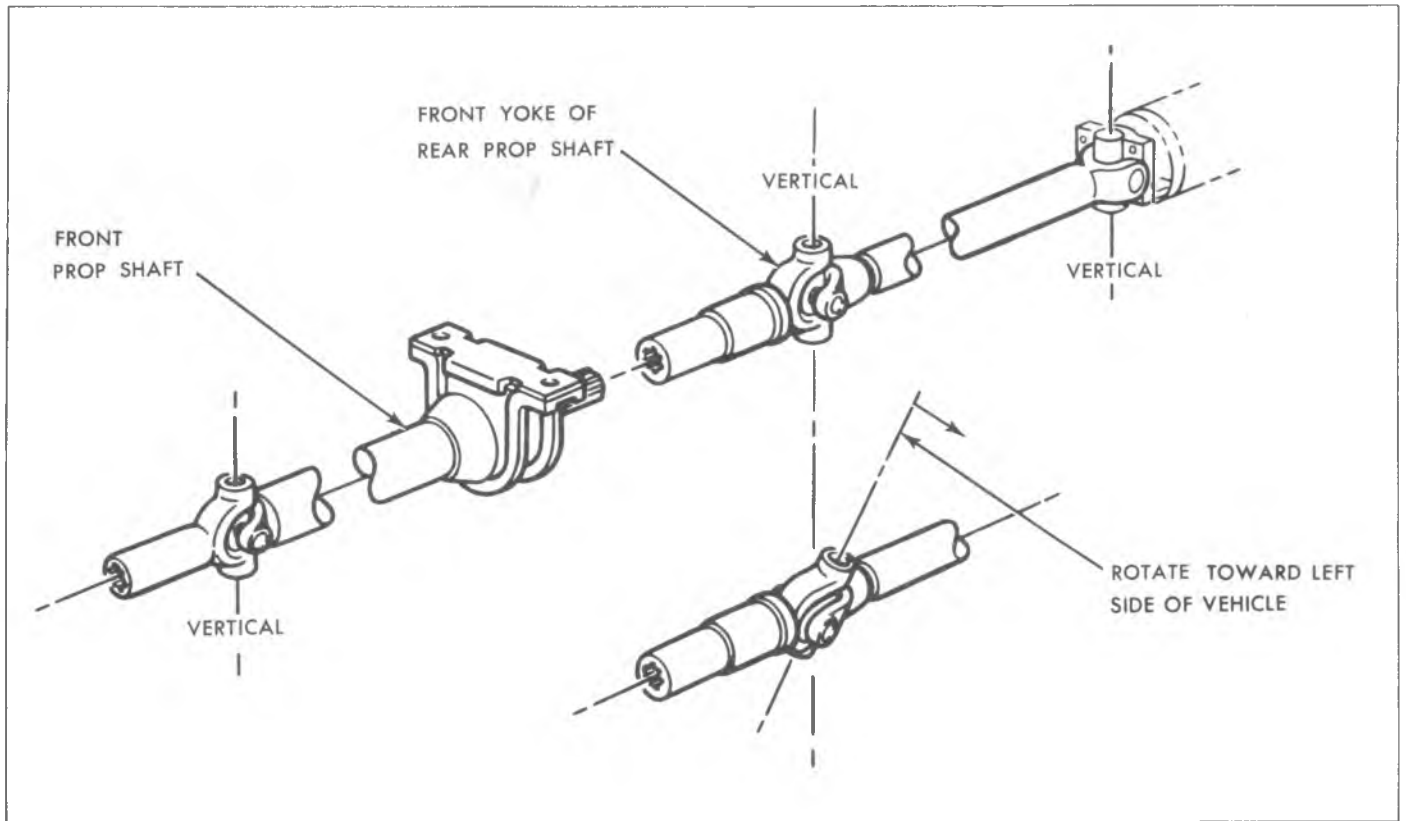

Fig. 51—Aligning U-Joints
- c. Take rear propeller shaft and before installing align U-joint trunnions in same vertical position as in step b (at this point all U-joint trunnions should be vertical). (fig. 51). Then, note relationship of front shaft and rear shaft spline position. For all models except model CE31403